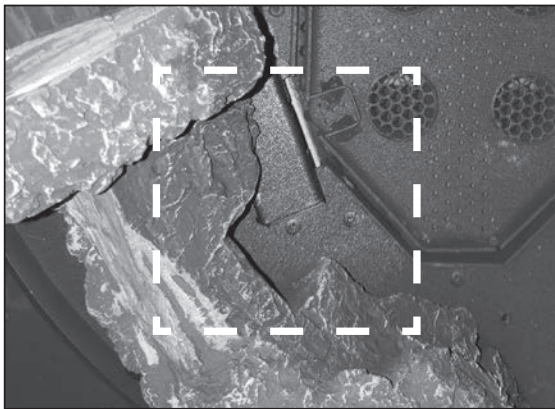

Figure 98: Log 7 Placement (Top View)
**\*Note:** It is important that Log 7 is placed correctly as specified in the instructions. There is a notch located on its back side (facing the burner) that should be placed to the right of the pilot as shown in Figure 98. Failure to place the log properly could result in problems with the pilot.